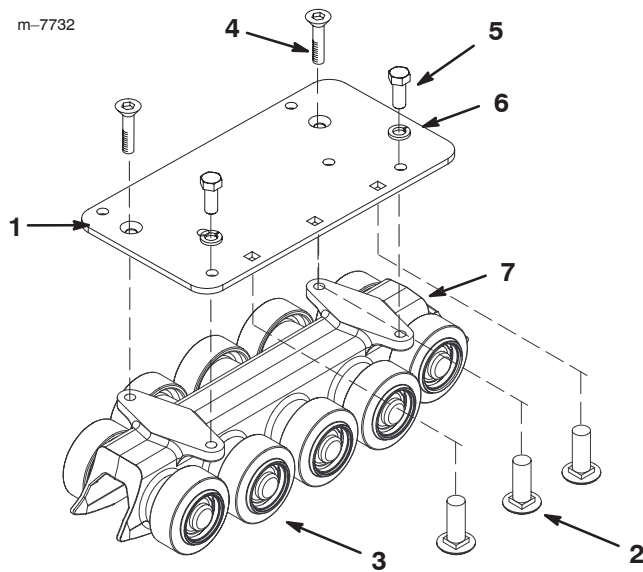

Figure 3
8. Install three carriage bolts (1/2 x 1-1/4 inch) to the adapter plate before installing the plate to the track guide (Fig. 3).
9. Install the adapter plate to the track guide (Fig. 3) using two hex-head flush screws (1/2 x 1-1/2 inch) and two bolts (1/2 x 1-1/4 inch) and lock washers (1/2 inch).